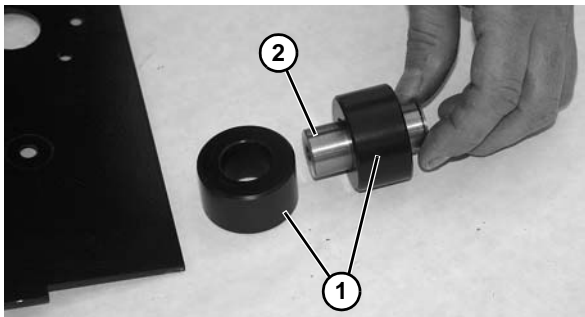

Figure 74
19. Remove two return rollers (**Figure 74, item 1**) and idler stub (**Figure 74, item 2**) from cover plate.